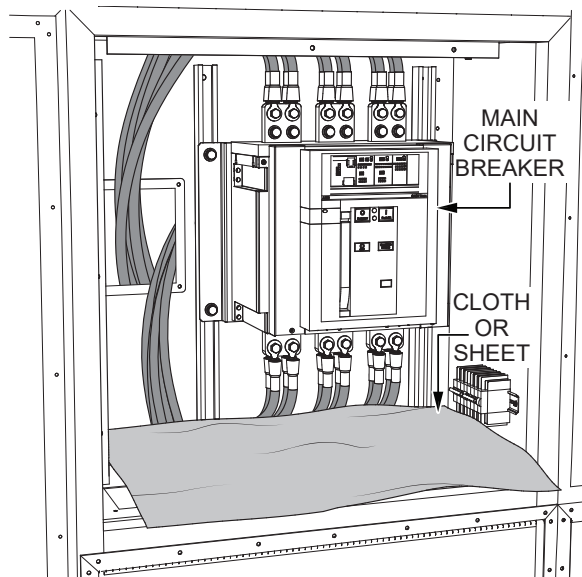

Figure 12. Cover Lower Cabinet Opening
- Place a **cloth or sheet** (Figure 12) beneath the **main circuit breaker** to prevent hardware from falling into the cabinet during the procedure.